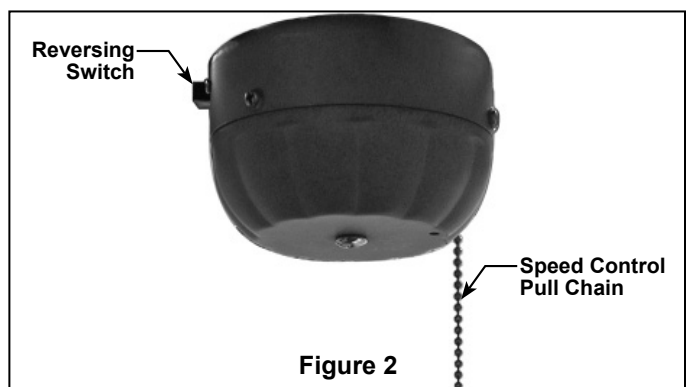

Figure 2
4. Loosen the two setscrews and hex nuts in the Downrod Support. Screw Downrod into Coupler. Align the Clevis Screw holes in the Downrod with the holes in the Downrod Support. (Figure 2)
1. After securing outlet box with two machine screws to building structure. Securely attach the hanger bracket to the outlet box using the outlet box screws and washers supplied with the outlet box (Figure 2).
NOTE: Outlet box screws pass through slotted holes of the hanger bracket (Figure 2).
3. Carefully lift the fan and seat the downrod/hanger ball assembly on the hanger bracket that was just attached to the outlet box (Figure 3). Be sure the groove in the ball is lined up with tab on the hanger bracket (Figure 2).
2. Check the operation of the fan by gently pulling on the pull chain switch. (Figure 2)
2. Securely attach the Canopy Housing to the Hanger Bracket using the external lockwashers and knurled knobs supplied with your fan (Figure 2).
7. Tighten both screws to secure the blade. (Figure 2)